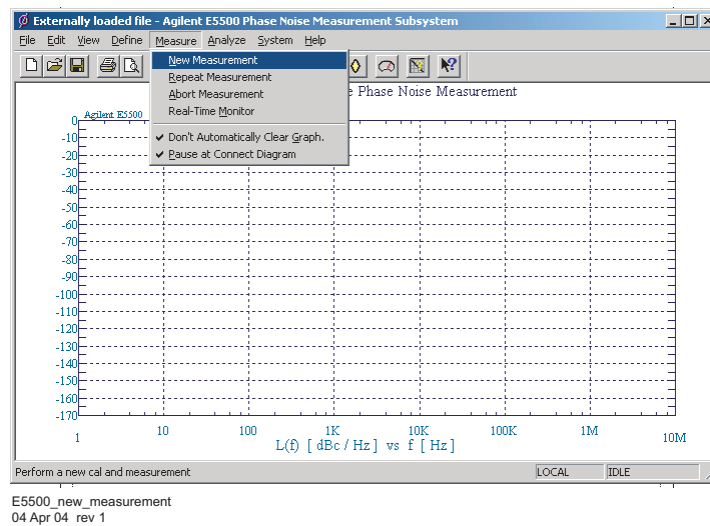

Figure 244 Selecting a new measurement
- 1 From the **Measurement** menu, choose **New Measurement** See Figure 244.